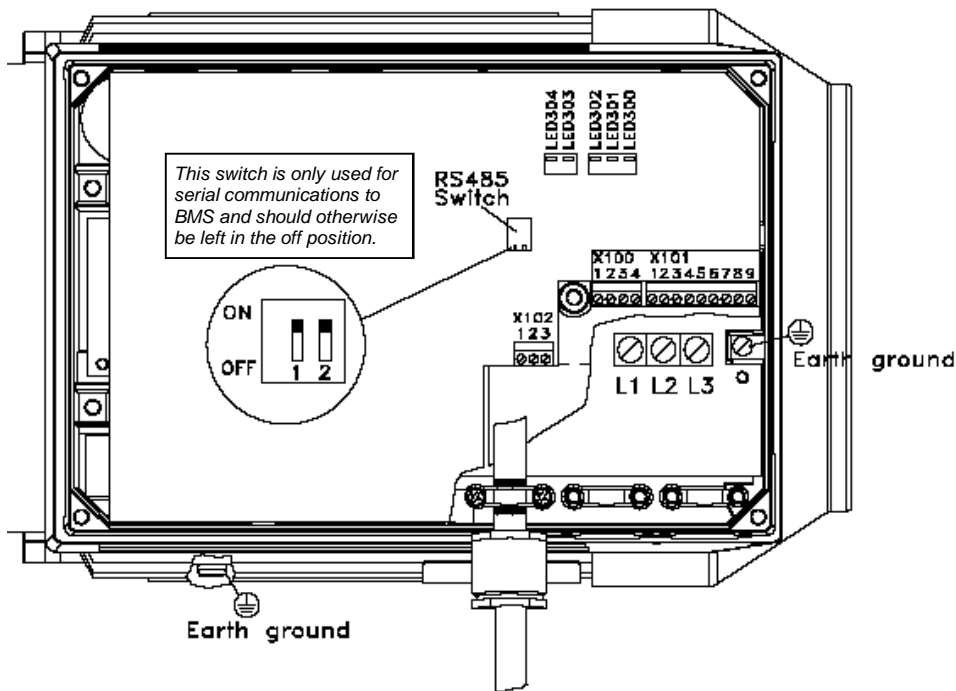

Figure 2. Inverter Terminal Arrangement
- iv. Remove the gland plug furthest from the drive end of the motor (to the right in fig. 2) and feed the mains cable through the hole.